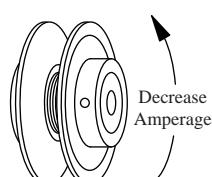

Fig. 6
- Pulley adjustment.** With an ammeter, check the motor amperage. Adjust the pulley until the amperage draw on the motor is just below that specified on the motor nameplate. To adjust the pulley, loosen the adjustment set screw and rotate the sheave. Tighten the set screw so that it is over a flat area, otherwise thread damage will occur. To increase amperage draw, increase pulley diameter. To decrease amperage draw, decrease pulley diameter (Fig. 6). Recheck belt alignment.